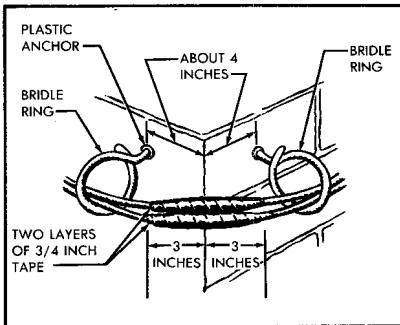

FIGURE 1. Bridle Ring
5.05 Figures 1 through 8 illustrate spacing of typical wire runs using a variety of attachments.